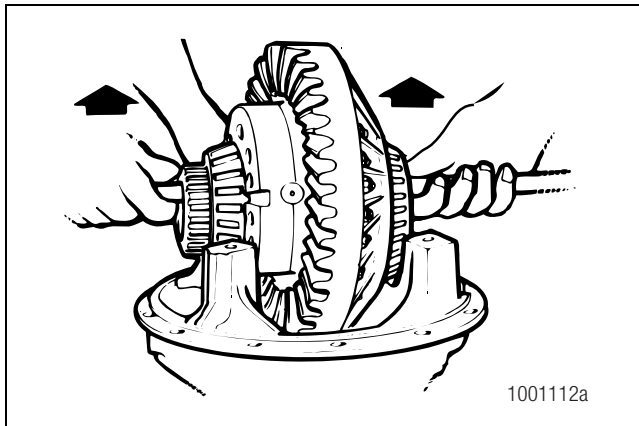

Figure 6.6
6. Lift the differential and gear assembly from the carrier. Tilt the assembly as required to permit the ring gear to clear the support for the pinion spigot bearing. Figure 6.6.